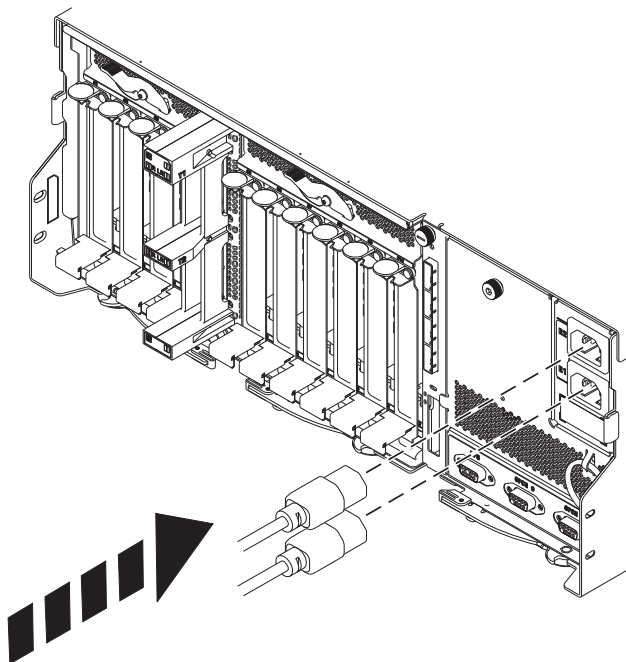

Figure 41. Connecting the power cords
- c. Move the handle (A) toward the disk drive unit to lock it into place.
- c. Move the handle (A) toward the card to lock it into place.
- 7. Connect the power cords to the back of the enclosure as shown in Figure 41.